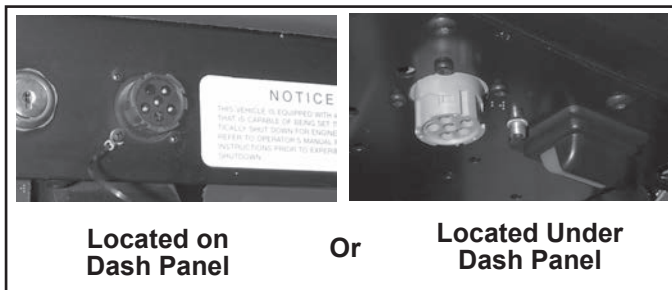

FIGURE 13 - TYPICAL VEHICLE DIAGNOSTIC CONNECTOR LOCATIONS (J1708/J1587, J1939)
3. Communicates the appropriate trouble code information over the serial communications diagnostic link as required. Hand-held or PC-based diagnostic tools attach to the vehicle diagnostic connector, typically located on or under the dash (see Figure 13).